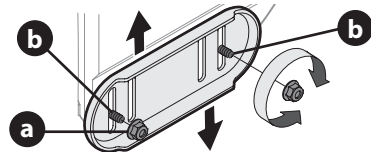

Figure 47
- Loosen four hex nuts (a) (two on each side) and carriage bolts (b). Move skid shoes to desired position (Figure 47).
NOTE: The skid shoes on your snow blower may look slightly different (and have different hardware) than ones shown in Figure 47.